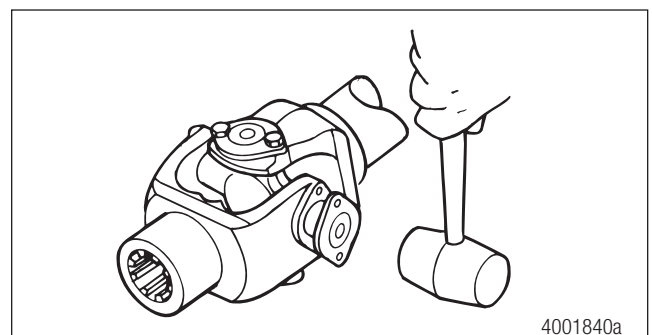

Figure 6.12
3. Hold the cross. Use a copper or brass hammer to lightly tap the bearing cup completely into the yoke bore. Figure 6.12.